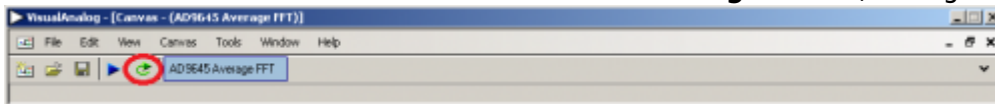

Figure 11. Run Button
- Click the **Continuous Run** button in the **VisualAnalog** toolbar (see Figure 11).
If the FFT window remains blank after **Run** in VisualAnalog (see Figure 11) is clicked, do the following: